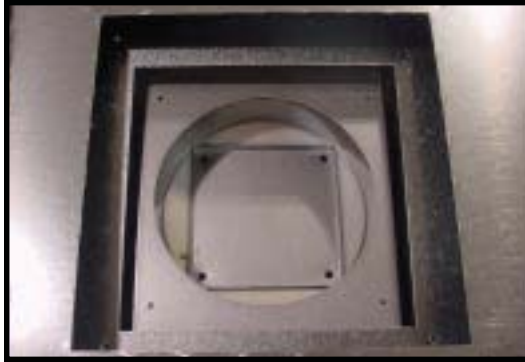

Figure 16 - Place Inner Cover Plate on Top of Appliance
12. Place the inner cover plate and white gasket (removed in Step 8) on the appliance top and replace the four screws to hold the inner cover plate in place. See Figure 16.